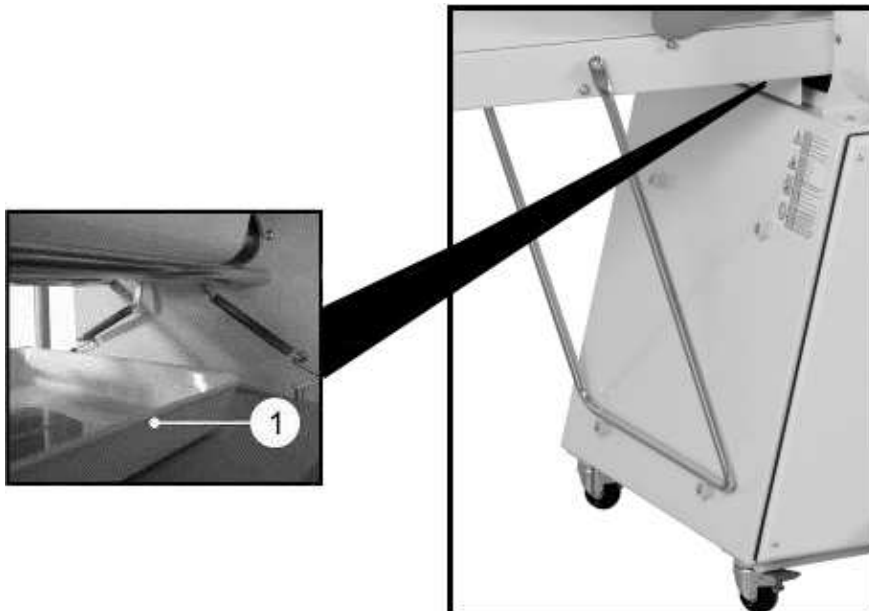

Figure 10
The machine is fitted with an excess flour collection drawer (ref. 1 Figure 10). To remove the drawer (for example to empty and/or clean it), set the main switch to O (OFF) and unplug the power plug, to prevent the machine from starting. Lift one of the two mobile guards and then lift the work table on the same side. After having emptied and cleaned the drawer, put it back on the base and restore the machine's original condition.